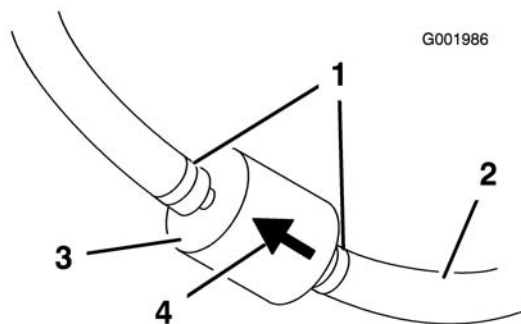

Figure 49
5. Squeeze the ends of the hose clamps together and slide them away from the filter (Figure 49).